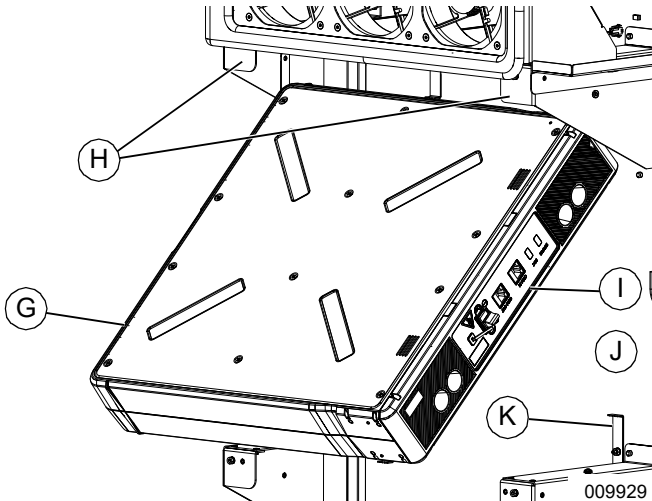

Figure 4-20. Installing Rear Battery Modules
1. See Figure 4-20. Angle top of battery module (G) under and behind bracket lip (H).